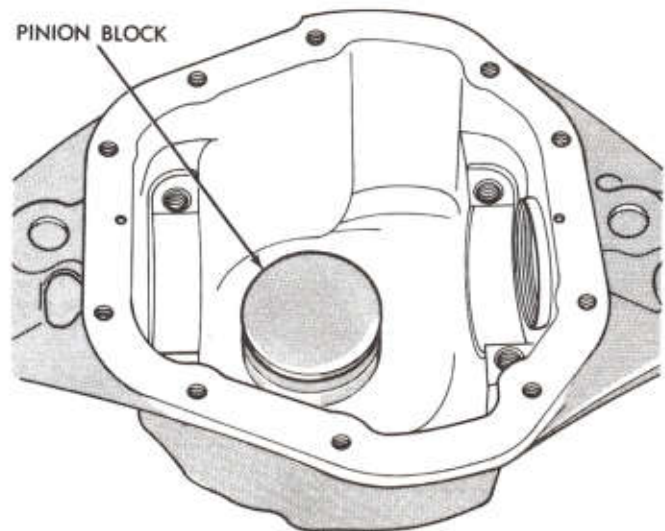

Fig. 16—Master Pinion Block Installed in Pinion Bore
(1) Place master pinion block into the pinion bore of the carrier (Fig. 16), Tool D-120 for **60 and 60M axles**, and Tool D-137 for the **70 axle**.